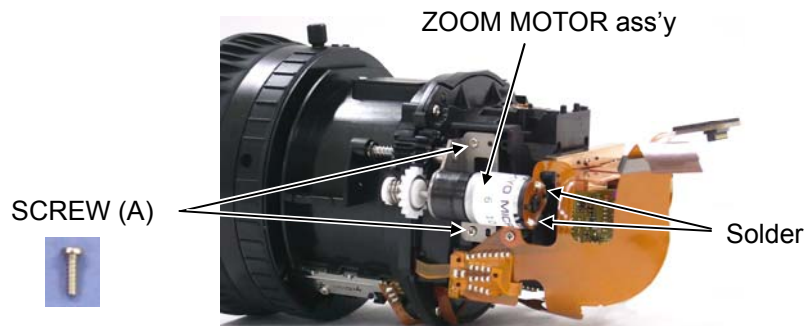

Figure 12-1
4. Unsolder the each soldering point of flexible board and unscrew the 2 screws (A), and then remove the Zoom Motor Ass'y as shown in figure 12-1.